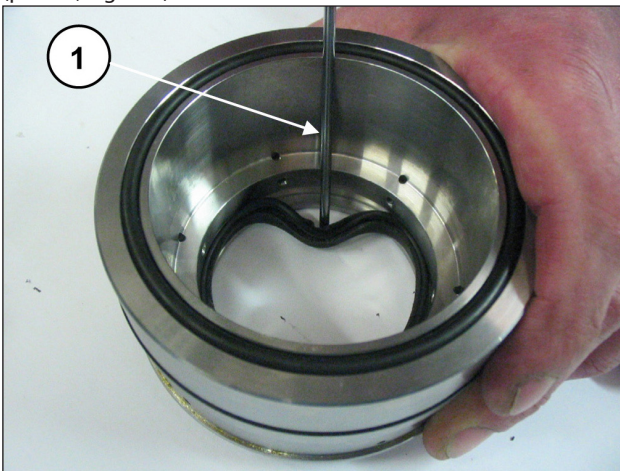

Fig. 163
To remove the low pressure seal, use a thickness gauge or another tool which will not damage the seal support housing (pos. ①, Fig. 163).